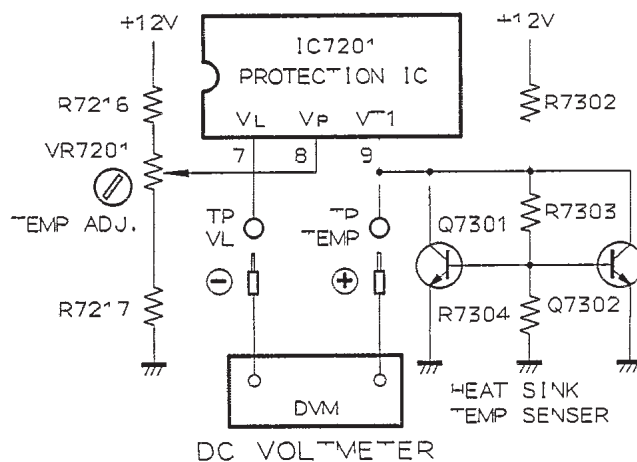

Fig. 2-4 Adjustment of Operating Temperature Setting of Fan Motor
1. Connect a voltmeter between TEMP and VL (or between IC7201 terminals No.9 and 7). (Refer to Fig. 2-4.)